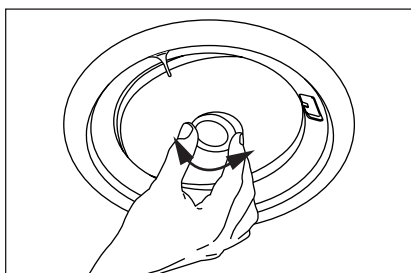

Figure 19 Directing the tweeter.
9. Direct the Tweeter. The tweeter is directed by gently pushing on the edge of the tweeter housing. **(See Figure 19).** It will move 17° in any direction. For critical listening point the tweeter to the user's favorite listening position minimizing reflections from the side walls. For surround sound or low volume background listening create more reflections and thus more ambience by directing the tweeter towards the side walls.